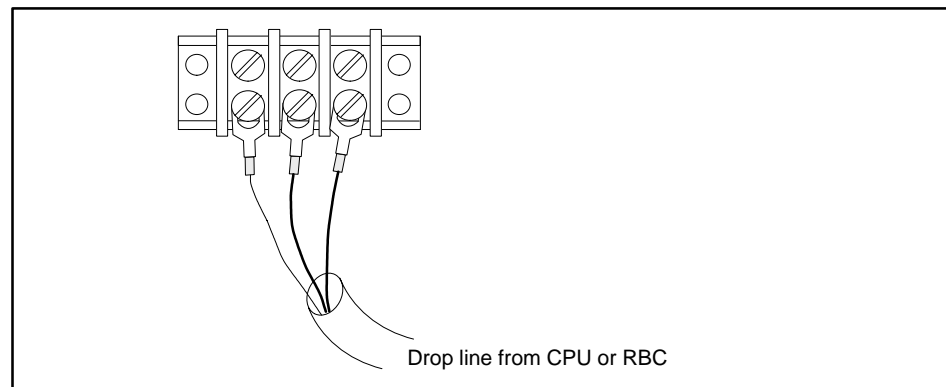

Figure 6-7 Connecting to a Series 505 Terminal Block
4. Loosen three terminal screws on the terminal block and install the cable lug terminals onto the terminal block. See Figure 6-7.